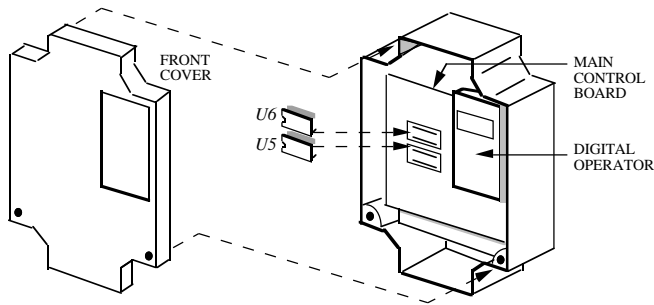

Figure 4. Installation of PID EPROM Set in GPD 503
4. See Figure 4. Remove the standard EPROM set and install the PID EPROM set as shown. Be sure to locate U5 and U6 in their proper place **with notches facing left!** Failure to do this will ruin the EPROMs.